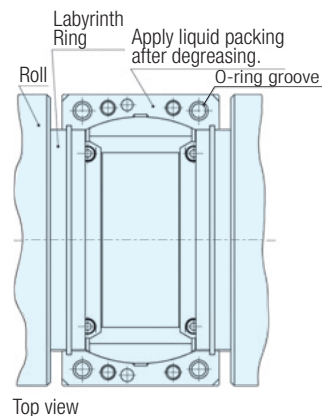

Fig. 15 Installation of Upper Labyrinth Ring
- (1) Insert the upper labyrinth ring to the labyrinth groove of the roll so that the matching mark agrees with that of the lower labyrinth ring that has been installed. Make sure that the split surfaces of the upper and lower labyrinth ring mate with each other (see Fig. 15).